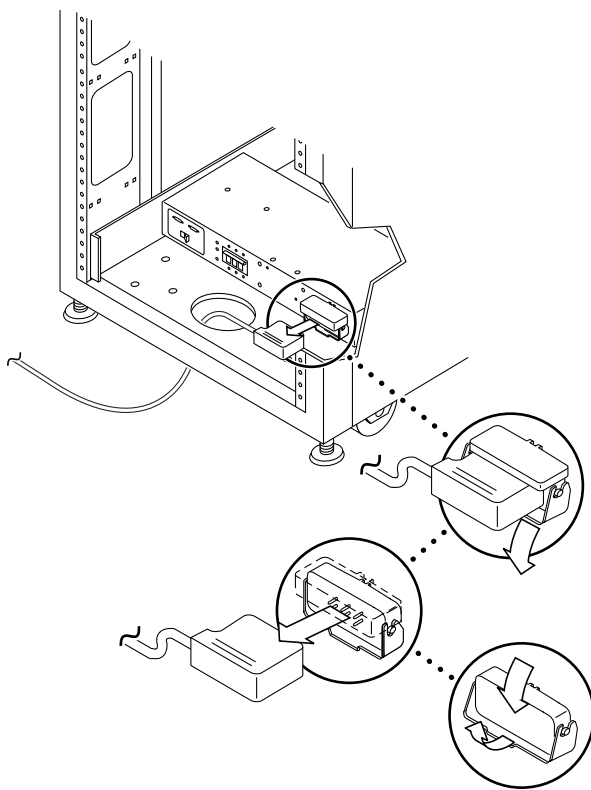

FIGURE 5-3 Removing the AC Input Cable
1. **Disconnect the AC power cord from the power connector on the power sequencer (FIGURE 5-3).**
- 1. Pull back the power connector cover (FIGURE 5-3).**